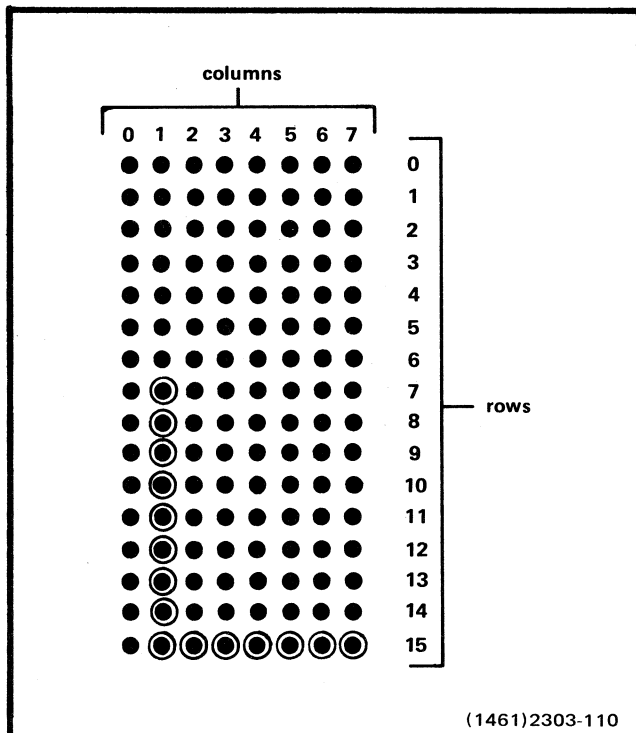

Fig. 5-5. Dots indicate the matrix generated by the Row Counter and Column Counter. No dots can be written when column 0 or row 0 through row 6 are selected.
1. Sequentially place the writing beam to each of 16 vertical positions (rows) in each of 8 horizontal positions (columns) to form a 9Y by 7X matrix for character writing. See Fig. 5-5.
5. Shift the matrix position up or down (or leave it unshifted) as required by the character being written. Generally the operation is performed in the following manner (refer to Figs. 5-5 and 5-6 as necessary).
Notice that the  $\overline{\text{ALPHA}}$  signal inputs to the Row Counter. There it provides a clear function, setting the R1, R2, R4, and R8 outputs low. These four low outputs enter the Y Matrix Circuit to cause the Y MAT signal to deflect the writing beam to the top of the matrix. (See Fig. 5-5.) These low-going outputs also enable the Address Read (AR) signal that in turn, causes the C1, C2, and C3 outputs of the Column Counter to be loaded into the ROMs. Because C1, C2, and C3 indicate the left-most column (column 0), the selected ROM outputs Column Dot information. The selected ROM outputs Column Dot information to the Dot Multiplexer on eight Dot Information lines. The ROM also supplies SHIFT information to the Character Modifier.
After the Row Counter outputs are cleared to zero and  $\overline{\text{ALPHA}}$  goes inactive, the Row Counter begins counting on the trailing edge of the  $\overline{\text{CHRCLK}}$  signals. This signal is either 154 kHz or 614 kHz depending on whether character display is normal store operation or write-thru operation. (Refer once again to Fig. 5-5.) Even though no write-dot information is contained in Column 0, the Row Counter must be counted through the Column in order to obtain Column 0 shift information. After counting Column 0, the Row Counter outputs (R1, R2, R4, and R8) all shift low on the next occurring  $\overline{\text{CHRCLK}}$  signal. This causes the Y MAT signal to deflect the beam to the Row 0 position. The low-going edge of the R8 output clocks the Column Counter, causing its output to select Column 1 of the addressed character. The X Matrix D/A circuit changes the analog value of X MAT signal to reflect the new horizontal position.